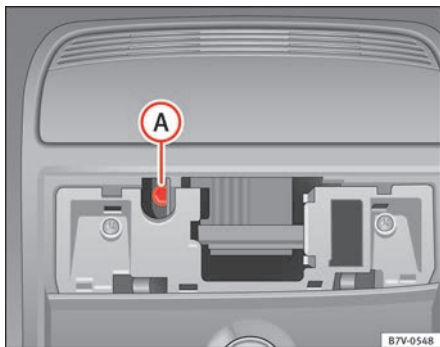

Fig. 194 Allen bolt to close the panoramic sliding roof.
- Insert a standard 4 mm Allen key1) into the Allen bolt ⇒ fig. 194 (A).